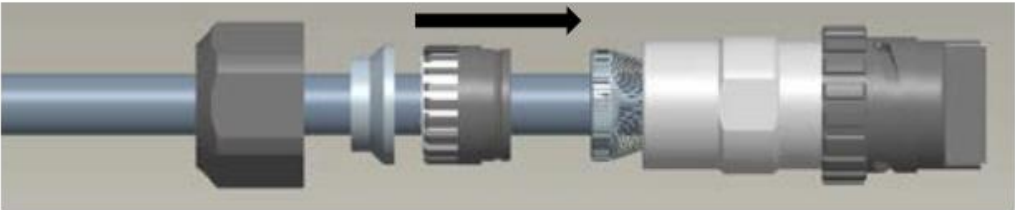

Figure 4-19 Shielding ring assemble
Step 4: Spread open the shielding braid and slide down the shielding ring (4) into position so that the entire shielding braid is equally pressed around. Between the shielding ring and the inside surface of the shell (3) , extra length of the shielding braid should be folded around and into the ID of the shielding ring, as shown in Figure 4-19.